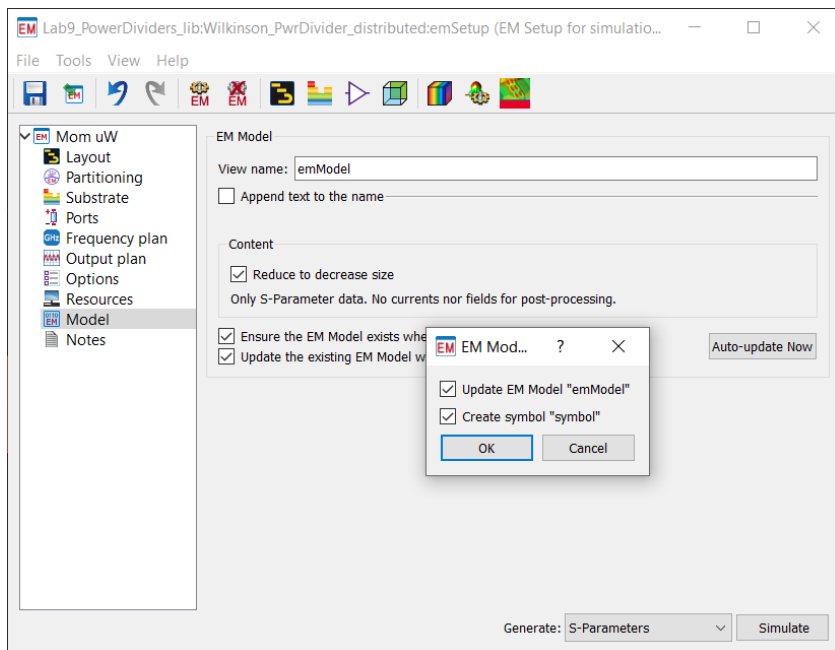

Figure 19. Creating an EM Symbol
9. While an emModel was created for the layout, a symbol is needed to do co-simulation. Go to **EM > Component > Create EM Model and Symbol**. Select both options, as shown in Figure 19.